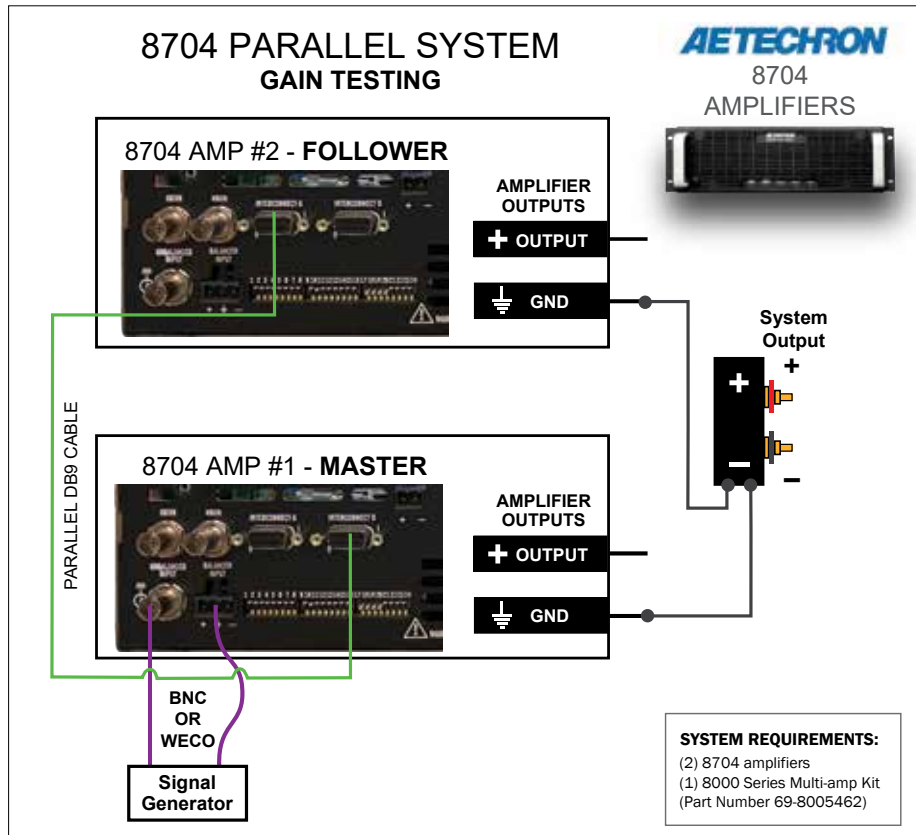

Figure 7.9 – Connecting the two amplifiers for parallel system gain testing
2. Place the Follower amplifier on top of the Master amplifier, and then connect the black wires of the output cable assembly (provided in the 8000 Series Multi-amp Kit) to the GND output terminal of the Master and Follower amplifiers as outlined below and as shown in **Figure 7.9**.